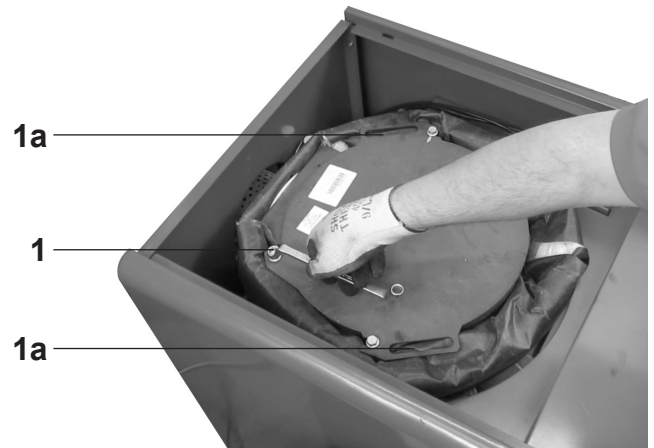

Fig. 05
- Release four screws (1, Fig. 05).